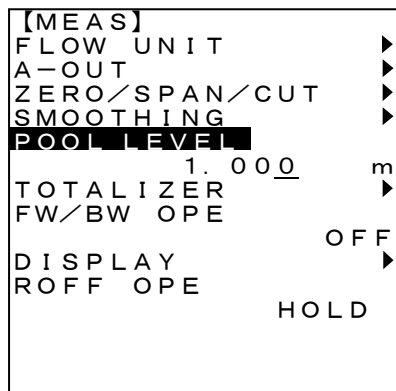

Fig. 4-7-5 Changing setting (a value of 1.000 is entered)
3. Enter a numeric value using the <0> to <9>, <./STRT>, and <-/STOP> keys. (Fig. 4-7-5)